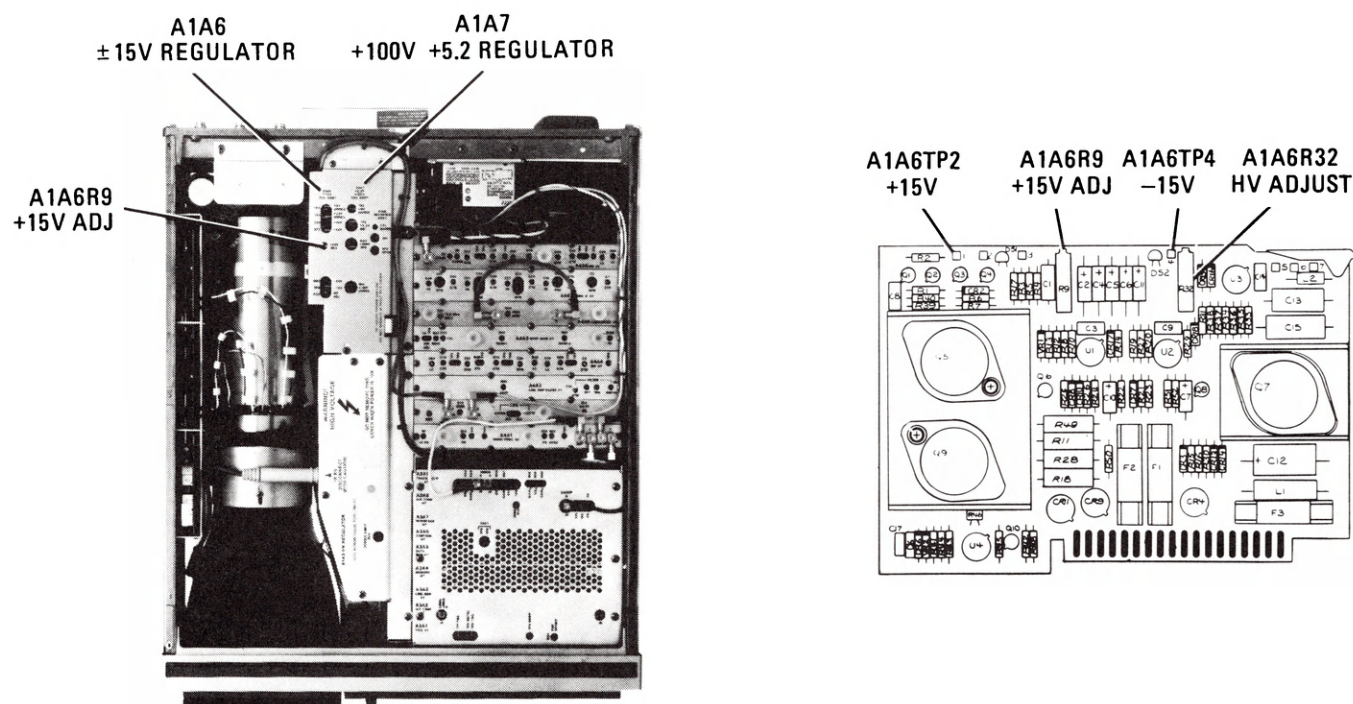

Figure 5-2. Location of IF-Display Section Low Voltage Adjustments
4. DVM indication should be $+15.000 \pm 0.010$ Vdc. If voltage is out of tolerance, adjust A1A6R9 +15V ADJ for specified voltage. Location of adjustment is shown in Figure 5-2.
14. Adjust A1A6R32 HV ADJUST for a DVM indication equal to the calibration factor calculated in Step 7 times 4000 ± 150 Vdc. Refer to Figure 5-2 for location of adjustment.